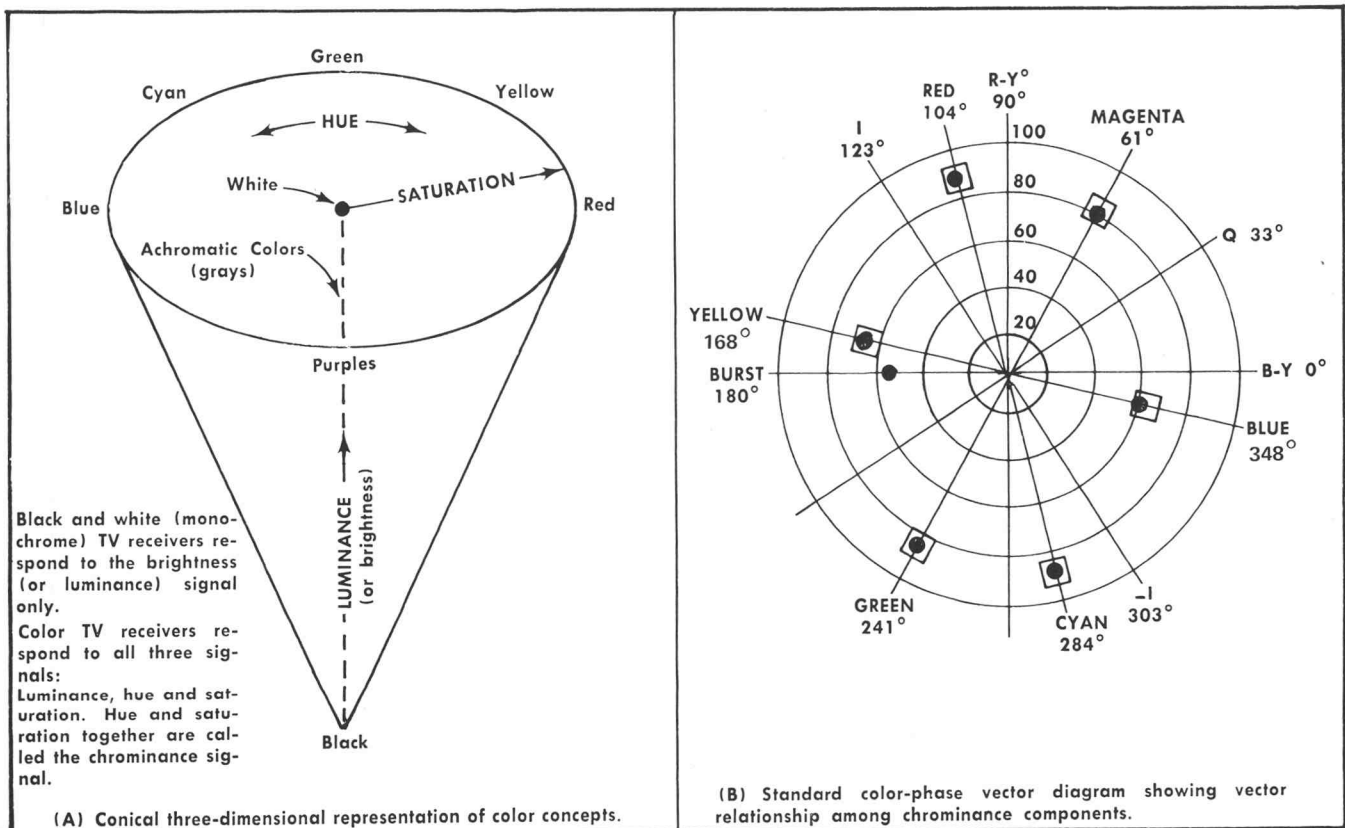

Fig. 2-3. Illustrations showing the relationship between the basic color concepts and the standard color-phase vector diagram.
Chrominance consists of two additional quantities; hue and saturation. Hue is the attribute of color perception that determines whether the color is red, blue, green, or some other color. White, black and gray are not considered hues. In color TV systems, the hue is encoded as a phase angle of the signal with respect to a reference frequency (burst signal). See Fig. 2-3 (B).
Saturation is the degree to which a color (or hue) is diluted by white light. Percentage of saturation is used to distinguish between vivid and weak shades of the same hue. For example, vivid red is highly saturated and pink or pastel red has little saturation. One-hundred percent saturation represents full hue with no white dilution. In a vector display, saturation is indicated by the length of the vector. See Fig. 2-3 (A).